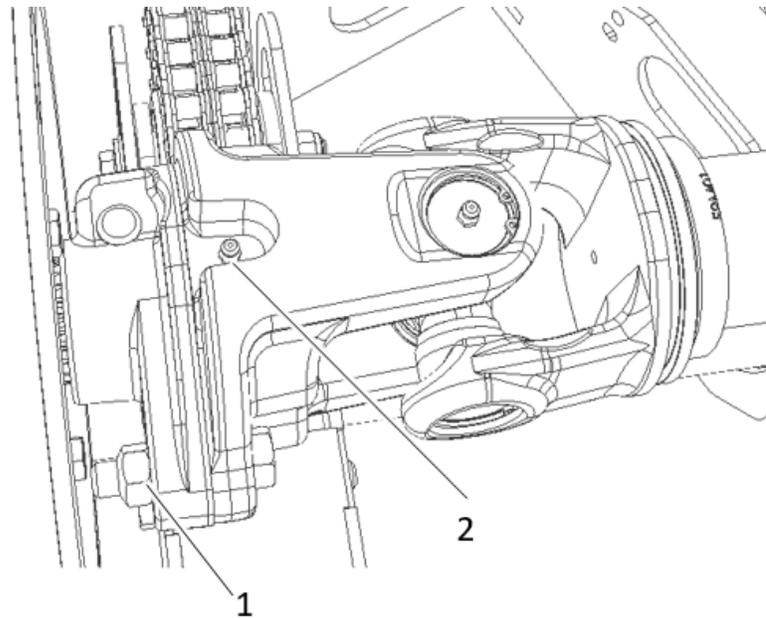

Figure 90 Cutter head drive shaft shear bolt
The cutter head drive shaft is protected by a 12 mm X 55 mm, grade 8.8 safety bolt (item 1, Figure 90).